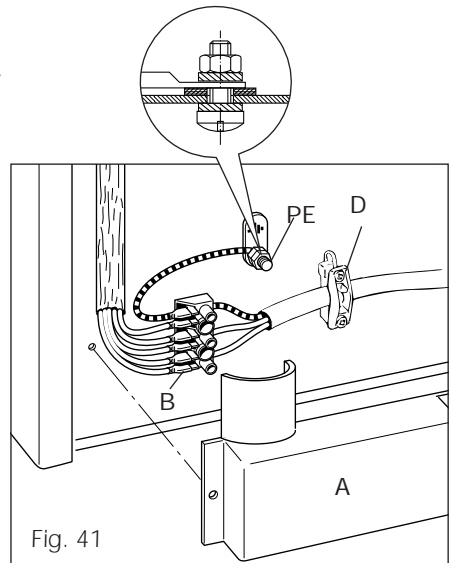

Fig. 41
- Remove the screw that hold shield "A" behind the cooker (fig. 41).